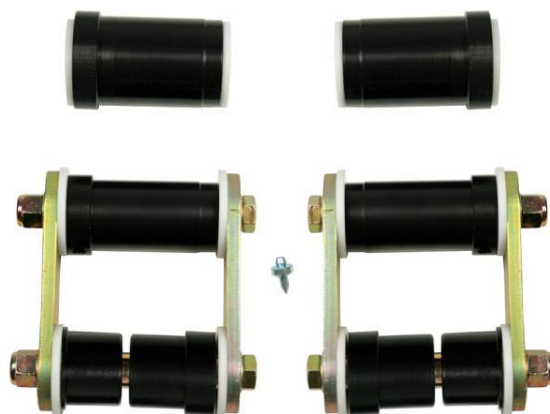
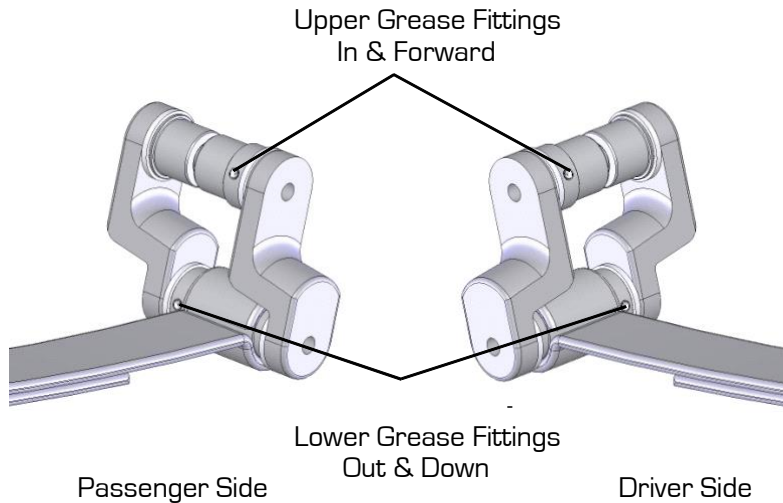

Figure 1 - Assembled Bushings, Washers, and Shackles
Figure 3 - Delrin Bushing Positioning (Normal or Offset Shackles)
2. Correct bushing configuration can be seen in Figure 3. This configuration is correct for standard and offset shackles. The included Delrin™ washers should be installed between the bushing and the shackle at each contact point as seen in Figure 1.